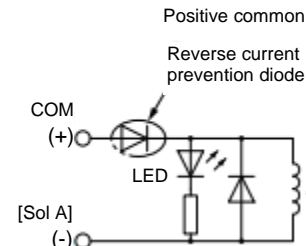

Figure 2. Surge suppressor
- The valve is fitted with diode surge suppressors, see Figure 2 and 3.